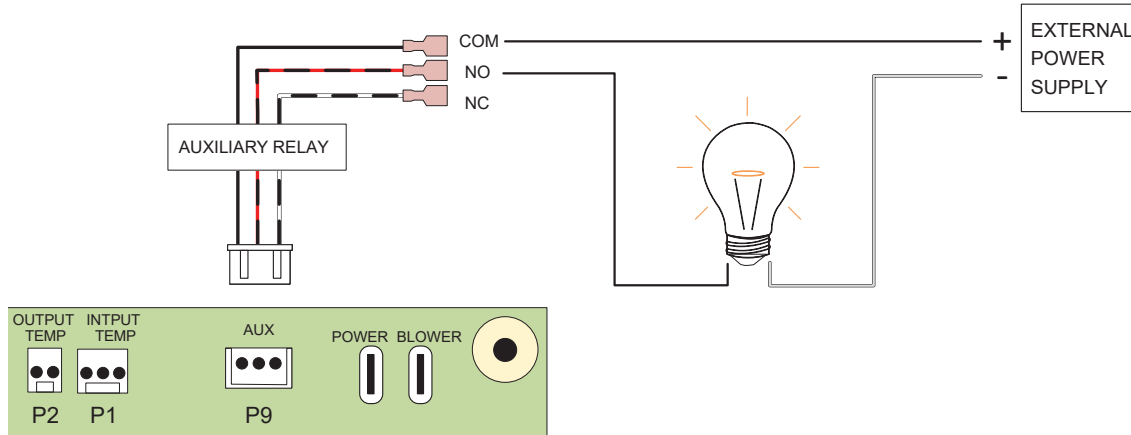

Figure 145. Auxiliary Relay
- P9 Auxiliary is a dry contact output: It requires external power supply to energize connected devices. See Figure 145.